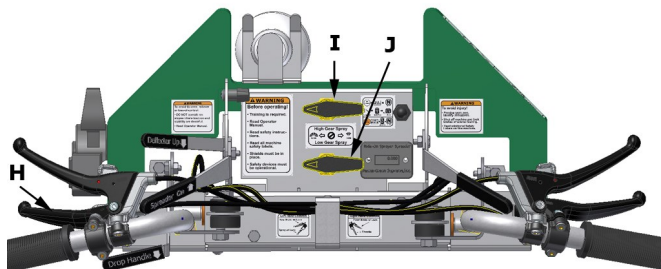

FIGURE 16, Sprayer Controls
Referring to **FIGURE 16:** A Spray Lever (H) with lock is mounted on the left handle which allows the operator to spot spray the liquid product while blanket covering the area with granular product. Dashboard mounted Spray Selector Valves (I) control which selects High gear Broadcast and Trim Nozzles. Spray Valve (J) selects Low gear Broadcast and Trim Nozzles.
- To select which nozzle will spray, point the Spray Control Valve handle for the gear selected to the desired nozzle either Broadcast or Trim. The front Spray Selector Valve (I) is used for **HIGH GEAR** and the rear Spray selector Valve (J) for **LOW GEAR**. Point Valve Handle left for Broadcast spraying, right for Trim spraying, and forward to prevent spraying for either nozzle.
- To begin momentary spraying, pull the Spray Lever (H) (**FIGURE 16**) toward the handgrip.